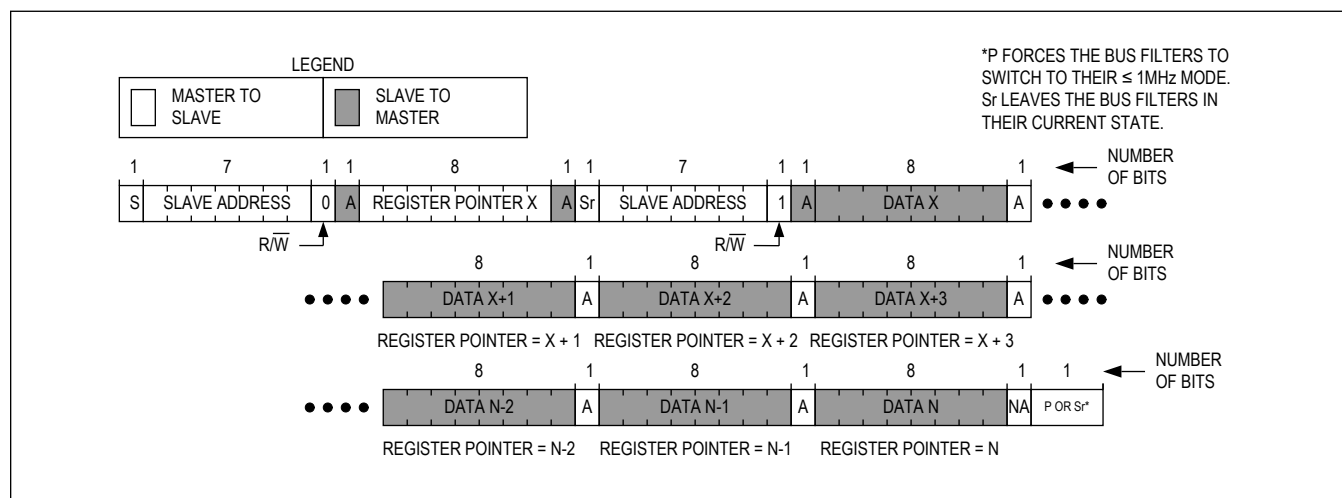

Figure 38. Reading Continuously from Sequential Registers X to N
Figure 38 shows the protocol for reading from sequential registers. This protocol is similar to the read byte protocol except the master issues an acknowledge to signal the slave that it wants more data: when the master has all the data it requires it issues a not acknowledge (nA) and a stop (P) to end the transmission. The continuous read from sequential registers protocol is as follows:
1. The master sends a start command (S).
3. The addressed slave asserts an acknowledge (A) by pulling SDA low.
10. The master issues an acknowledge (A) signaling the slave that it wishes to receive more data.